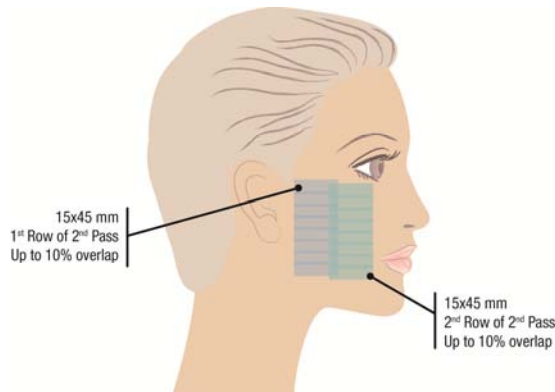

Figure 2
- Female patients, and male patients who are willing to risk loss of beard hair, will require approximately 25 pulses with the full BBL crystal for the first pass on the cheek. The second pass is made perpendicular to the direction of the first pass (Figure 2).